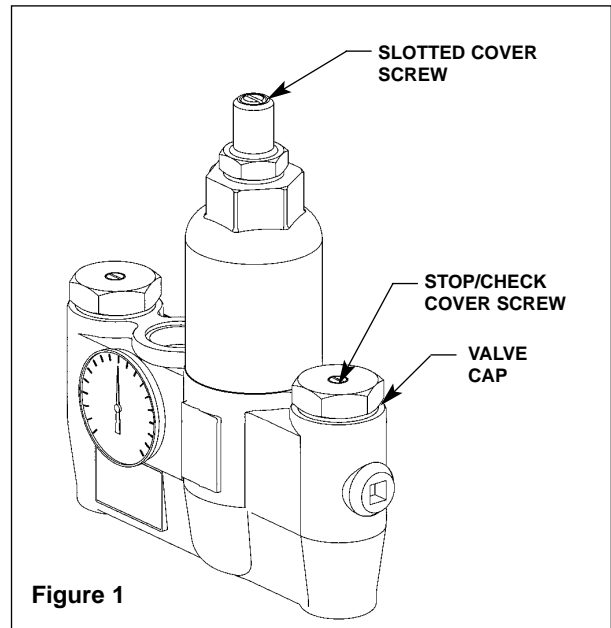

Figure 1
Note: When the check valves are in the open (operating) position, the cover screw for the stop/check stem will be flush with the valve cap (see Figure 1).
- make sure that the check valves are fully open (the slotted stem must be flush with the stop/check cap) (see Figure 1 on page 3) and that all inlet and outlet shut-off valves are open